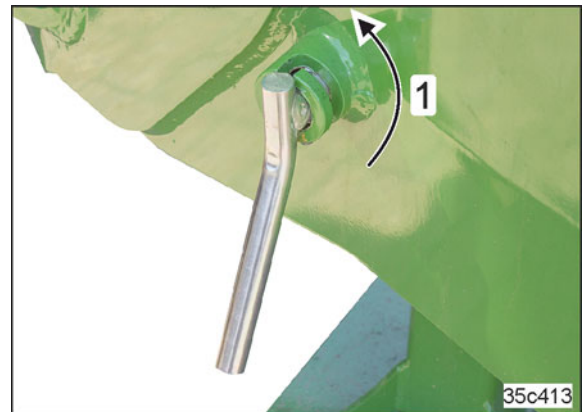

Fig. 109
- 13.1 Turn the locked pin (Fig. 109/1) by 180° until the clamping sleeve (see Fig. 110/1) is released.
16. Lock the pin by turning (see Fig. 109).